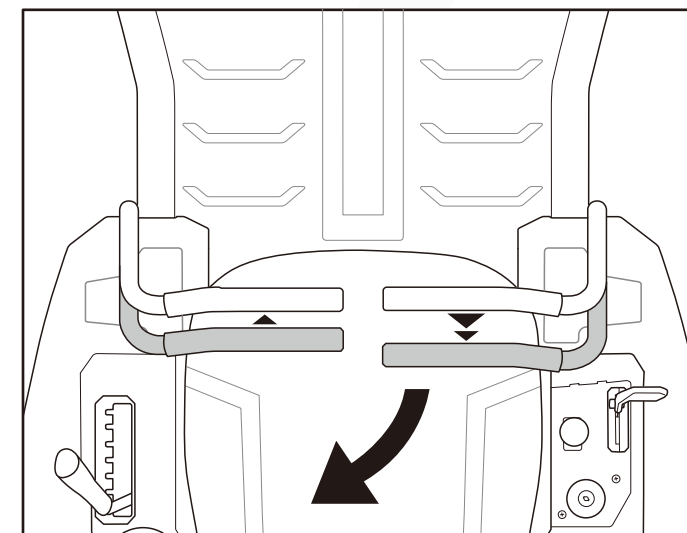

Fig. 18A
1. To turn to the right while traveling in reverse, move the left drive control lever forward of the right drive control lever. (Fig. 18A)